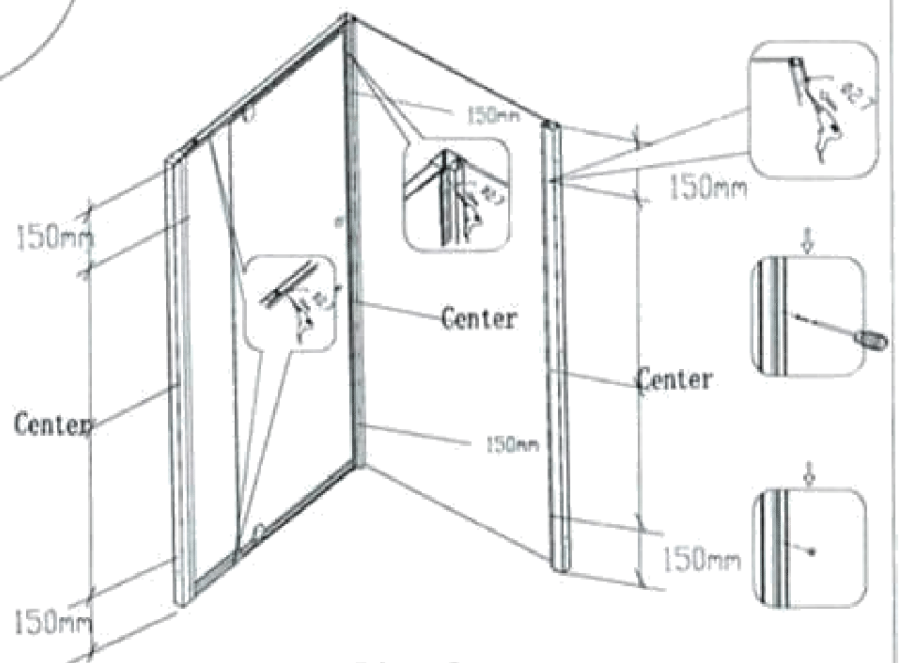

Fig 8
5. Adjust the position of the shower enclosure. Then drill 3 holes with ($D=2.7\text{mm}$) drill bit. One is in the middle on the overlapping of the profiles; the other two are 150mm up and down from the bottom and top of the profiles. And drill the holes in the joint part of up and down guide rail with ($D=2.7\text{mm}$) drill bit. Secure the wall profile and glass profile with **round head screw ST3.5*12(9)** and cover the **screw caps (7)**. Use the same ways to connect the other side. (Fig 8)